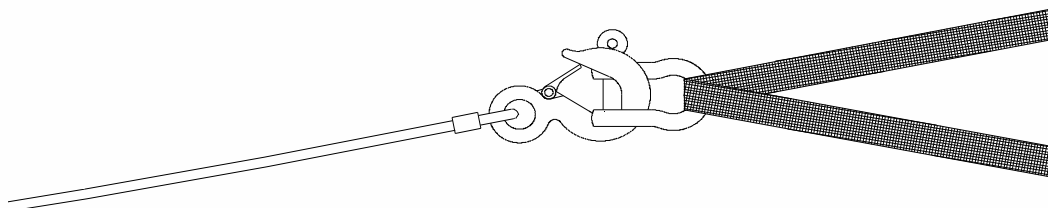

Fig. 6
2.1A shackle should always be used when attaching winch hooks to nylon slings. See Fig. 6.